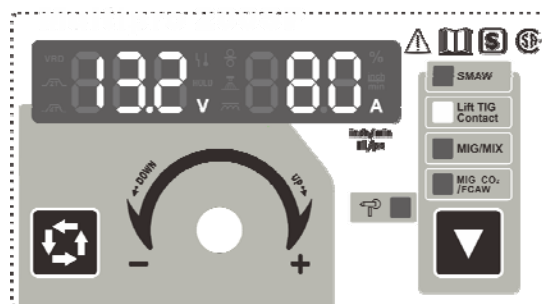

Fig.10 LIFT TIG Mode
- ③ The panel displays as **Fig.10** when **performing** welding, the welding voltage is 13.2V, and the current is 80A. It will go to the default state of welding current in 5 seconds when stopping welding.